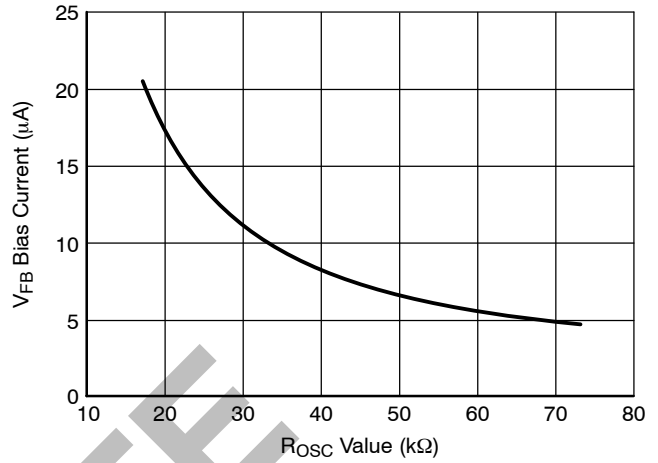

Figure 4. V_{FB} Bias Current vs. R_{osc} Value
- The V_{FB} Bias Current changes with the value of R_{ROSC} per Figure 4.